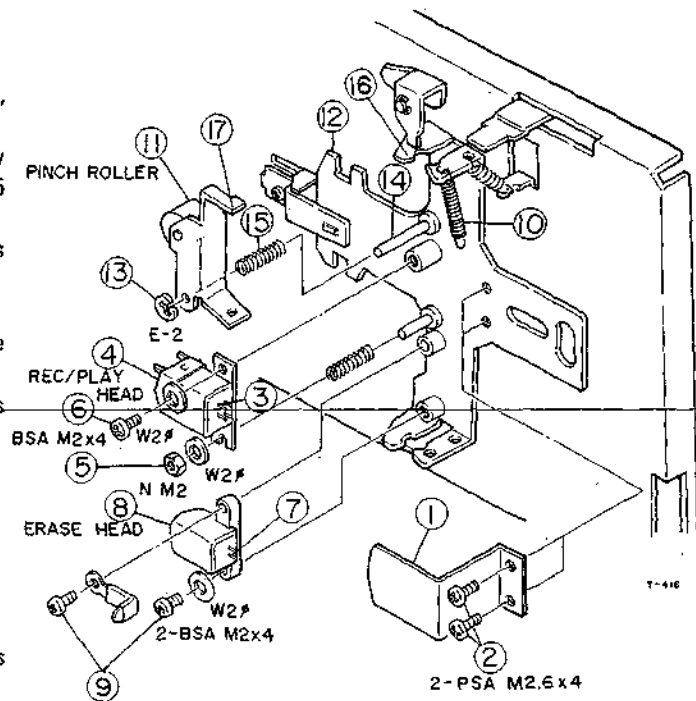

Fig. 6 Heads/Pinch Roller Replacement
Make sure that the arm (16) fits properly into the guide (17) in the Pinch Roller Ass'y as shown in Fig. 6.